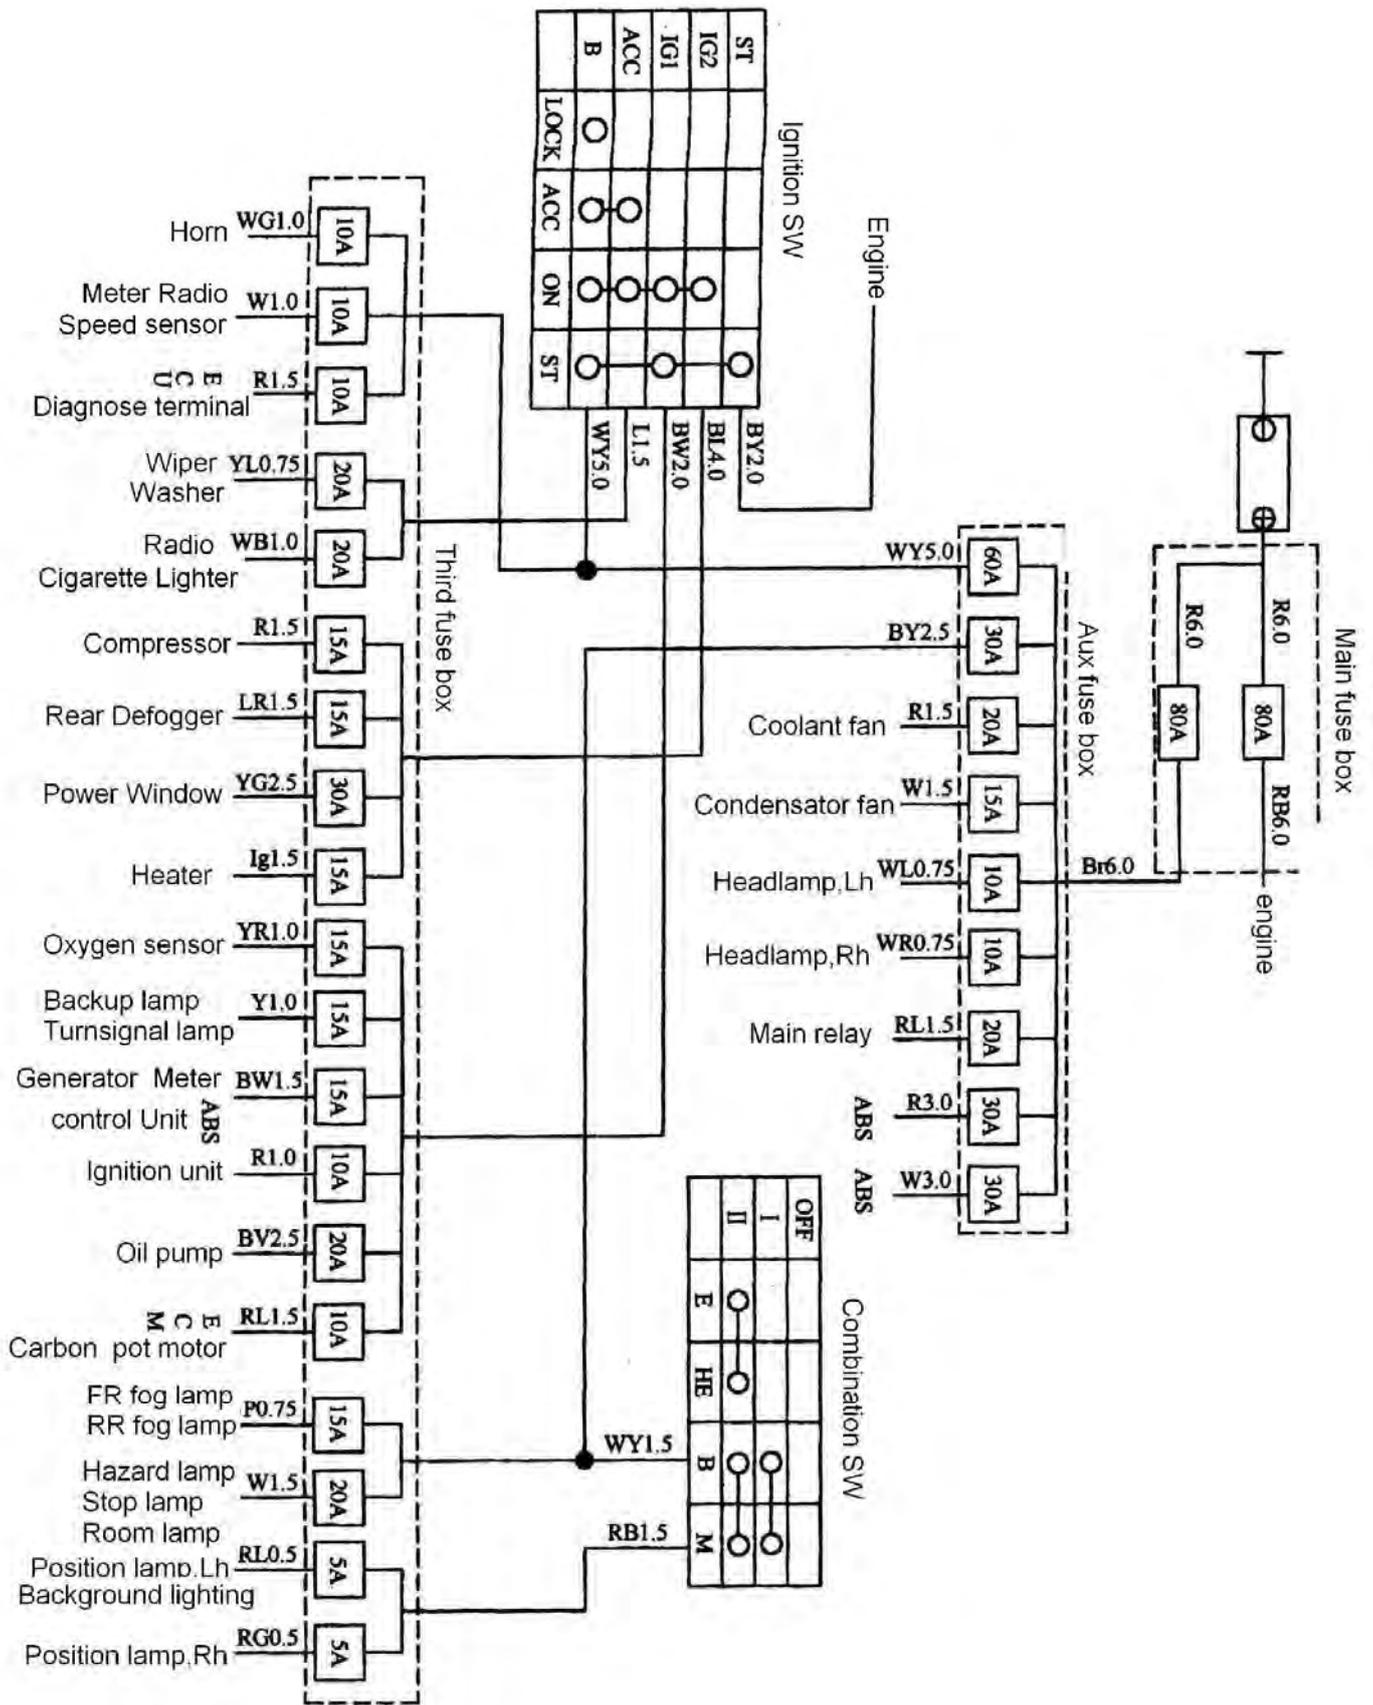

Fig. 17-46
2) Fuses distribution (see Fig. 17-46)